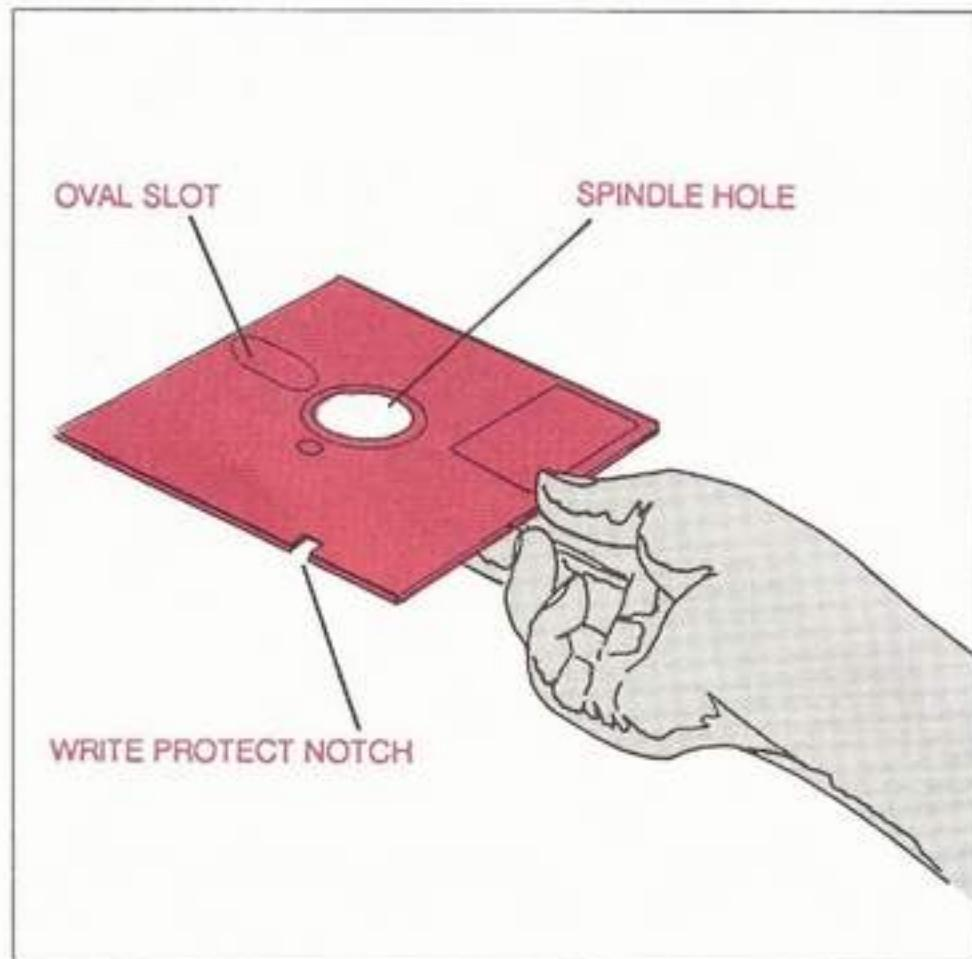

Fig. 12: Grasping a Floppy Disk
- ___ c. Locate the working copy of the DOS System Disk, and remove it from its protective sleeve. Grasp the disk, as shown in Fig. 12, by the label on the disk.